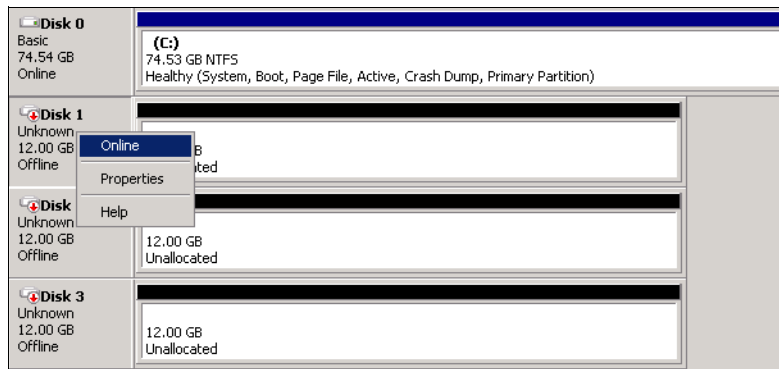

Figure 7-11 Windows Server 2008 R2: Place disk online
- 6. Right-click the disk in Disk Management and then select **Online** to place the disk online (Figure 7-11).